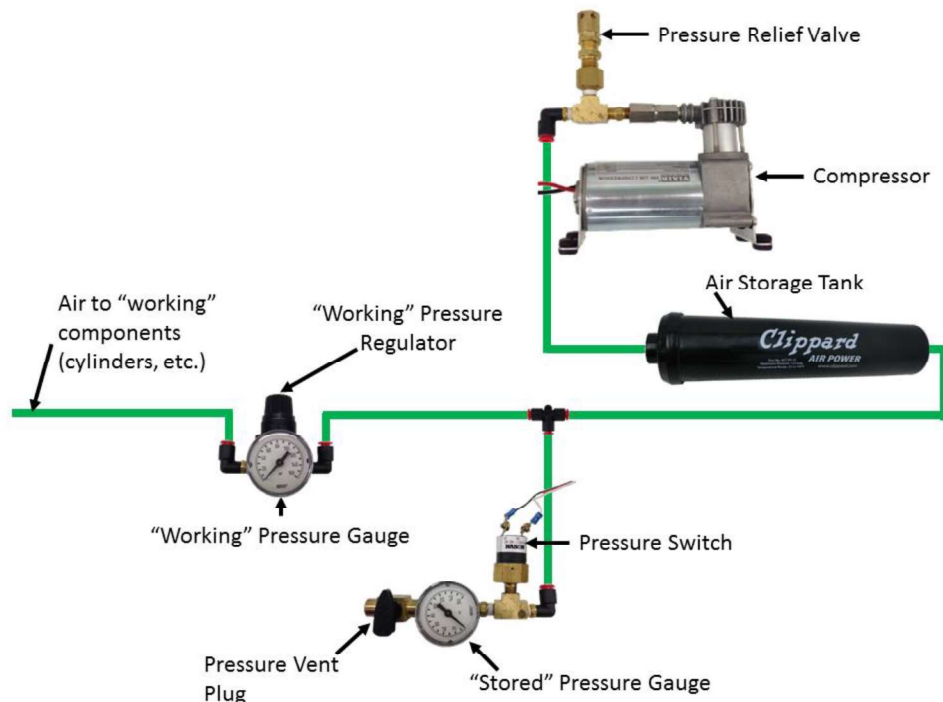

Figure 9-14 Pneumatic circuitry
- R78.** If pneumatic COMPONENTS are used, the following items are required as part of the pneumatic circuit and must be used in accordance with this section, as illustrated in Figure 9-14.
- A.** One (1) FIRST Robotics Competition legal compressor (per R79)